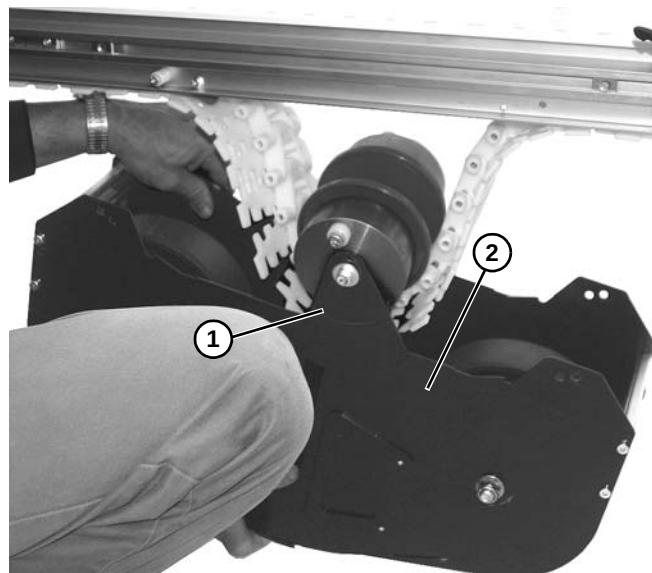

Figure 25
3. Raise weighted take up box assembly, with plate (**Figure 25, item 1**) on idler pulley assembly on outside of outer plate (**Figure 25, item 2**) weighted take up assembly.